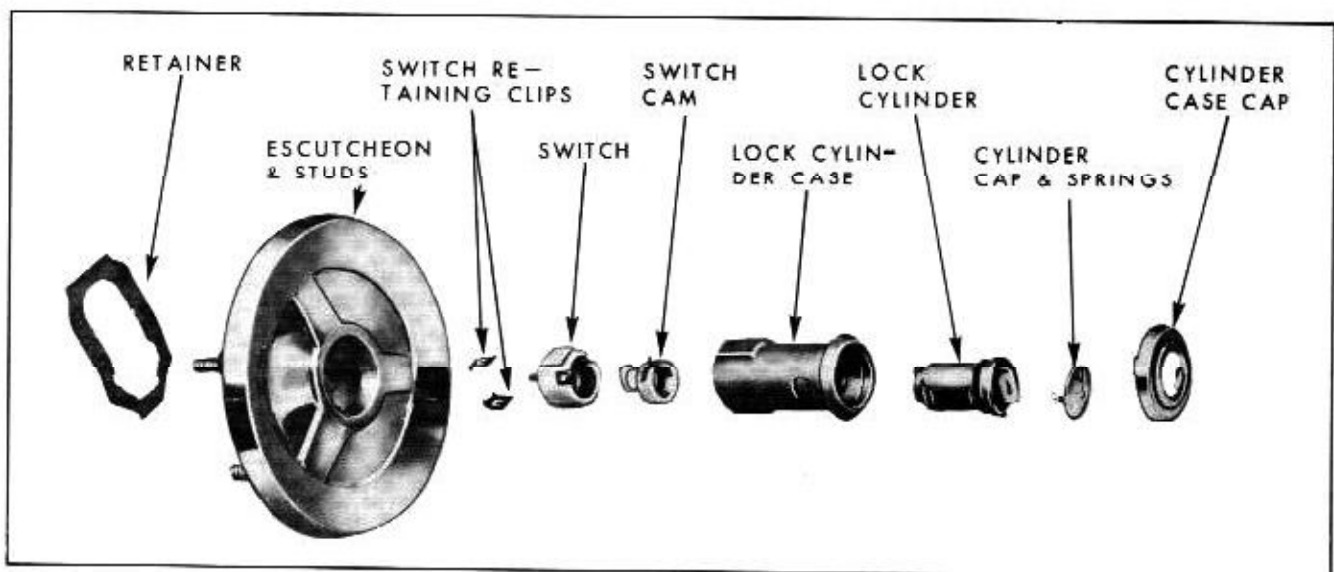

Fig. 17-195 Electric Lock Cylinder and Switch
2. Disengage lock cylinder and switch retainer and remove lock cylinder and switch assembly from escutcheon. (Fig. 17-195)
1. Using a pointed tool inserted through holes in lock cylinder case, depress tab of switch clips and remove clips. (Fig. 17-195)
2. Carefully pull switch and switch cam from lock cylinder case. (Fig. 17-195)